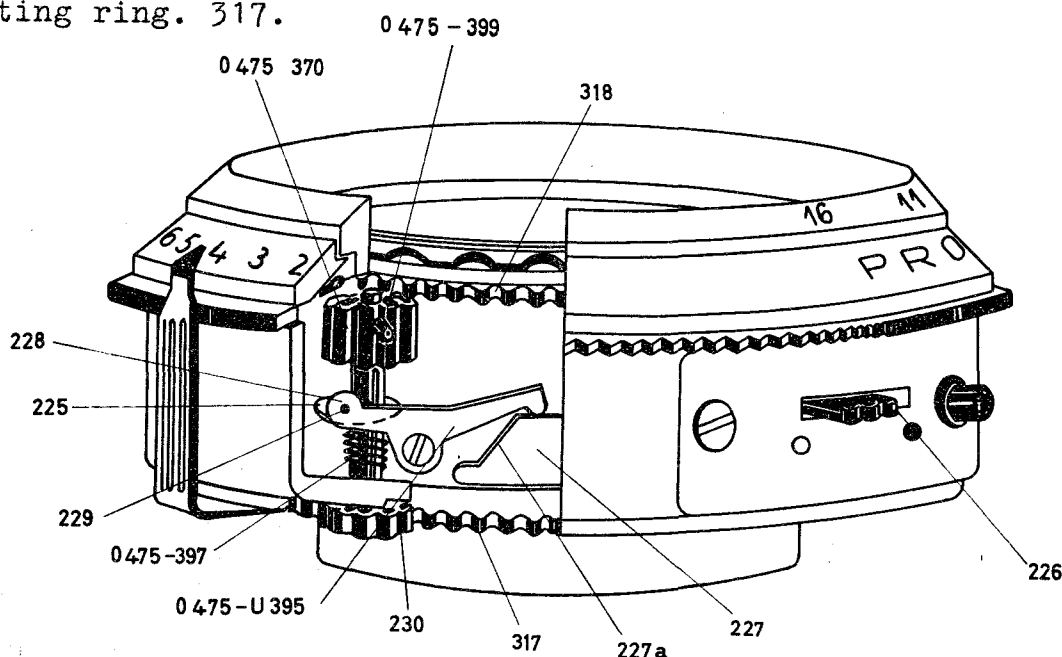

Fig. 41
b. For this purpose, there is provided a coupling control lever 226 (see Fig. 41 on Sheet 89) which has to be depressed to permit it to be moved either into the position marked with a dot (coupling engaged) or into the position marked with a circle (coupling disengaged).